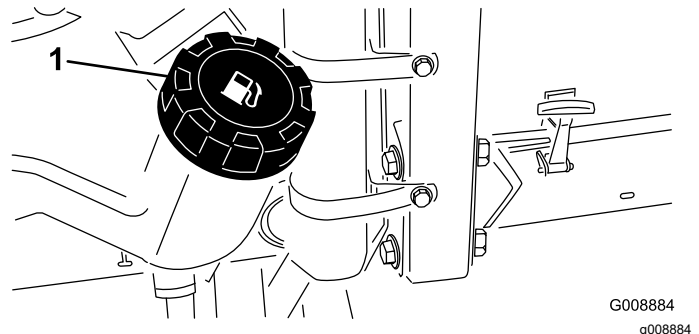

Figure 29
1. Clean the area around the fuel-tank cap (Figure 29).